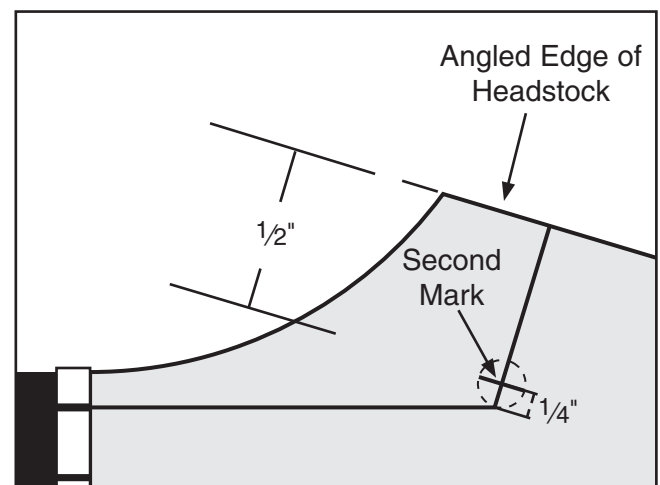

Figure 8. Peghole placement and second mark.
5. Make a mark on the line made in **Step 4**, $\frac{1}{4}$ " towards the headstock edge from the line made in **Step 2** as shown in **Figure 8**. This marks the center of the first peghole. This mark should be parallel to and $\frac{1}{2}$ " from the angled edge of the headstock.